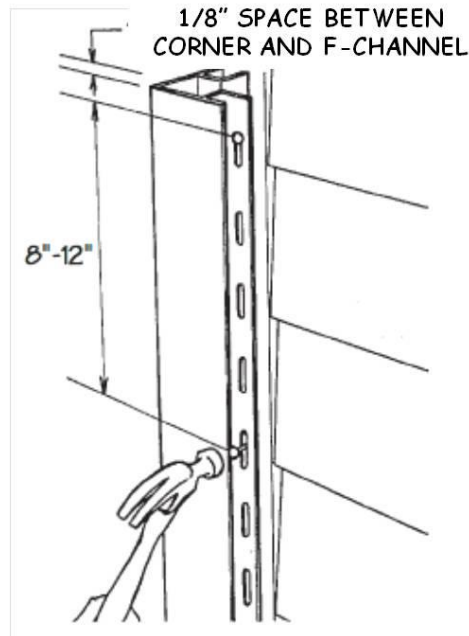
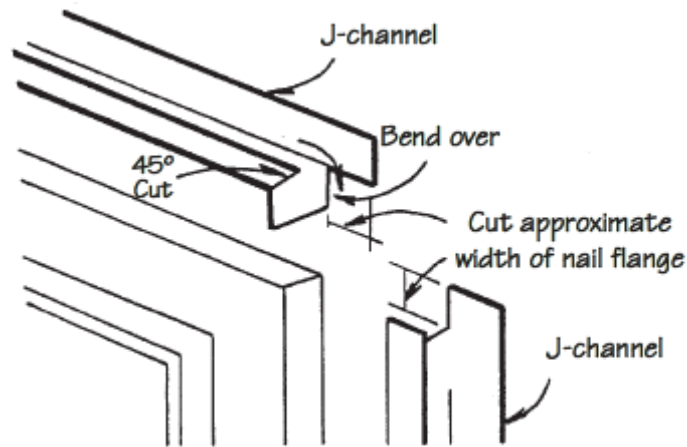

Figure 11-3. Siding Corner.
Figure 11-4. J-Channel Upper Corner Detail.
NOTE: Figures 11-4 through 11-7, 11-9, and 11-10 were provided courtesy of the Vinyl Siding Institute, Inc. Figures 11-3 and 11-12 are modified versions of figures provided courtesy of the Vinyl Siding Institute, Inc.
3. For door side pieces, measure from the top of the brickmold to the porch cement. Cut J-channel side pieces to that length. Install side pieces flush with the top of the brickmold, nailing snugly every five slots. See Figure 11-4.